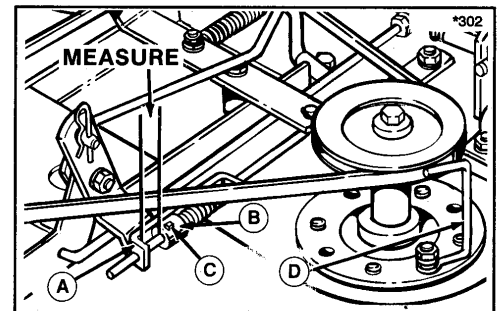

Figure 42. Drive Belt Tension
Using the mower lift lever, lower the mower. Using the height control lever, place the mower in highest cutting position. Place the PTO lever in engaged position. The gap between the rod guide (A, figure 42) and the set collar (B) should measure $\frac{3}{8}$ to $\frac{1}{2}$ inch (10 to 13 mm). If not, disengage the PTO. Loosen the setscrew (C). Move the rod forward to increase the gap or back to decrease the gap then tighten the setscrew. Engage the PTO and recheck the adjustment. Readjust if necessary.